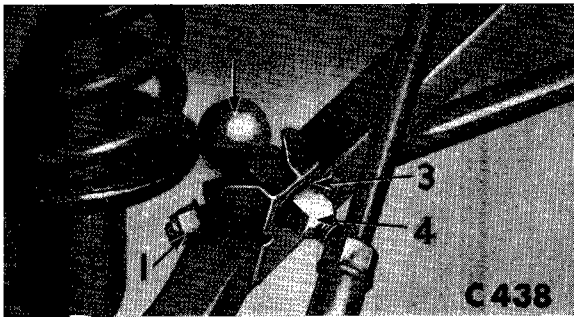

Fig. 25. Anti-roll bar attachment to lower wishbone
2. Secure the damper lower eye to the wishbone with the bolt (14), plain washers (15) and (17) and nyloc nut (18).
3. Secure the upper spring pan to the chassis sub-frame with three washers (6) and nyloc nuts (4). A packing piece is fitted between the upper spring pan and chassis sub-frame on the left-hand side of left-hand drive vehicles.
4. Attach the anti-roll bar to the lower wish-bone (Fig. 25).